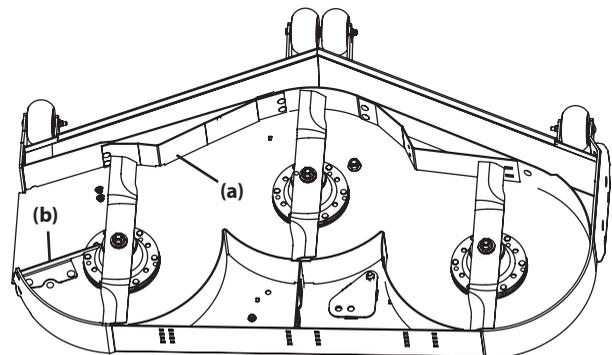

Figure 17
***Inner Baffle (48, 54 and 60 inch Decks Only):** The inner baffle (a) regulates grass discharge. Remove the inner baffle for high-volume grass and install the inner baffle for precision cutting (Figure 17).
Discharge Baffle: The discharge baffle (b) enhances the grass discharge pattern. The discharge baffle reduces clumping and should be removed for mulching (Figure 17).